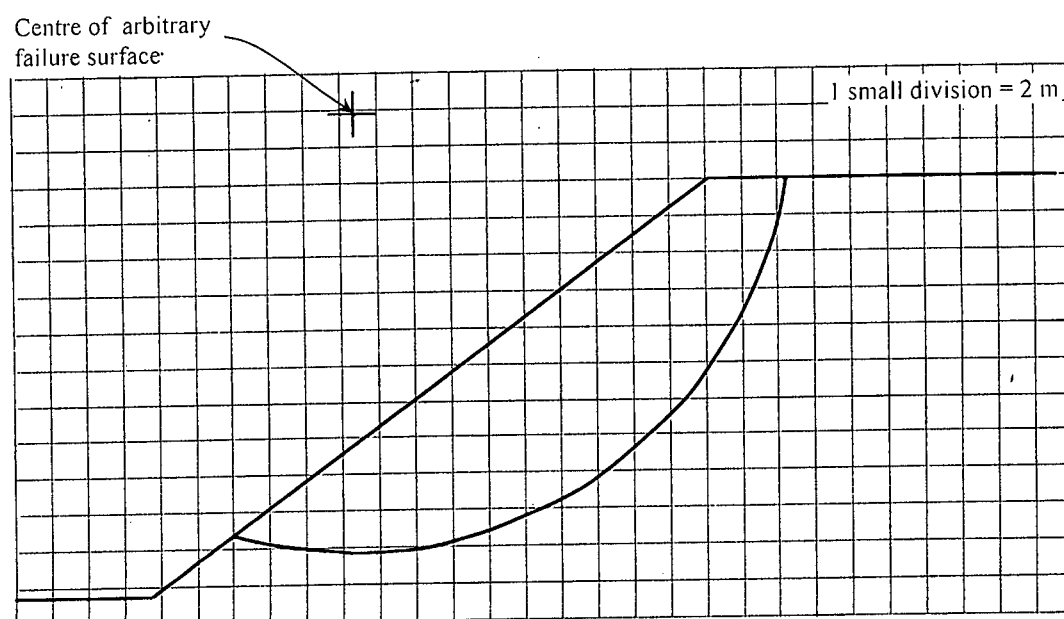

Fig.11
(c) Fig. 11 shows the cross-section of a homogeneous earth slope for which an arbitrary circular failure surface is considered. The center of the failure surface is also shown. Calculate the factor of safety, using ordinary method of slices, for the given failure surface, considering 4 Nos. of slices (Given, $\gamma = 16.8$ kN/m³, $c = 18$ kPa, $\phi = 15^\circ$). (18)